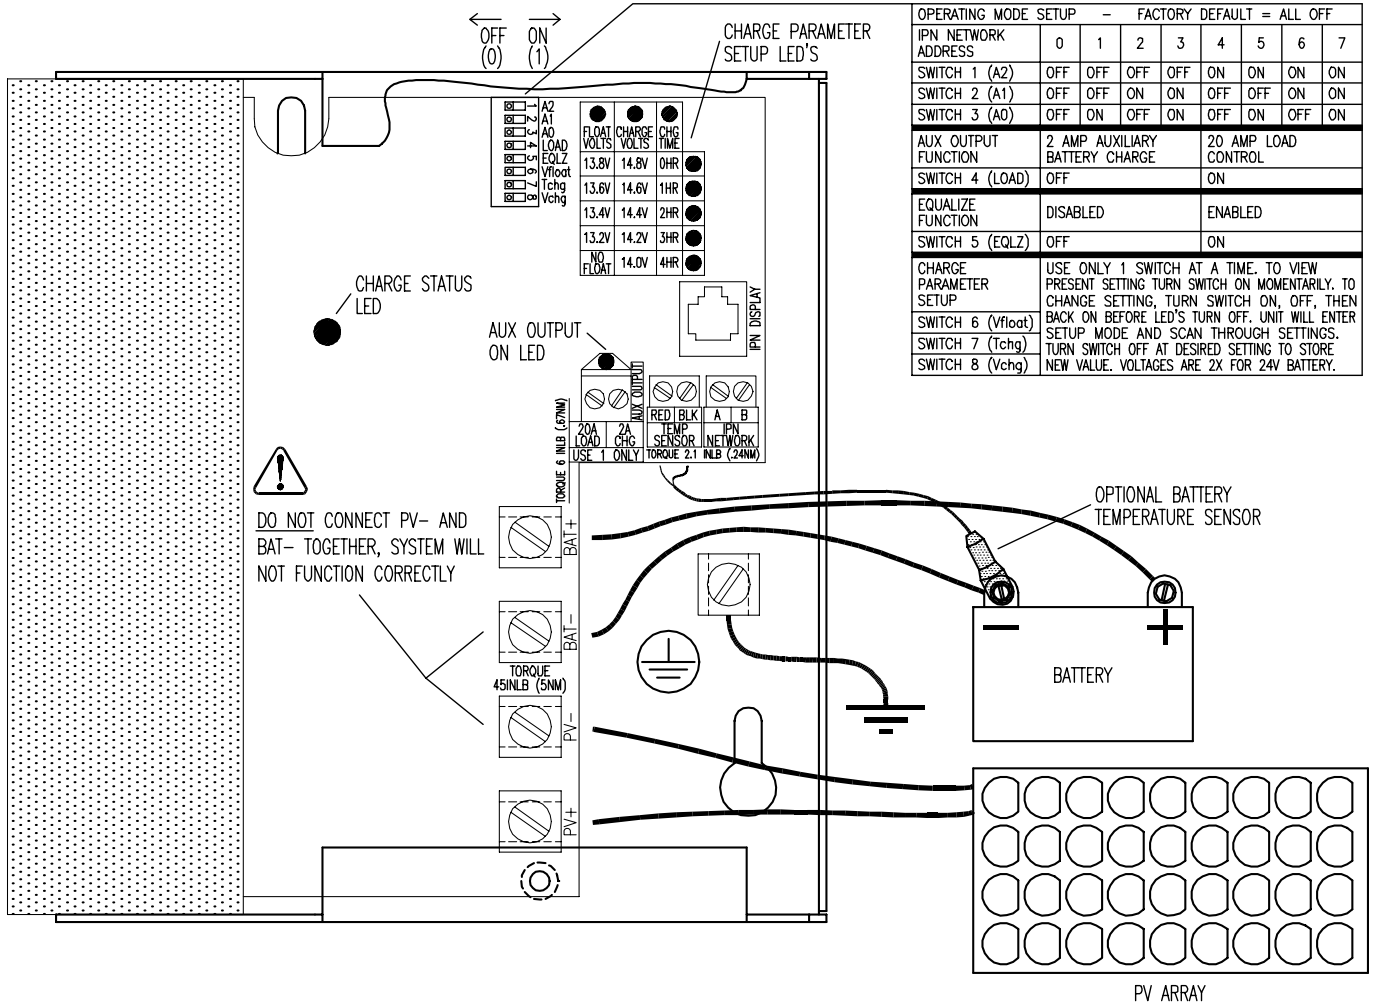

FIGURE 3
➤ **WARNING:** Read, understand and follow the Important Safety Instructions in the beginning of this manual before proceeding. To reduce the risk of fire, connect only to a circuit provided with 40 amperes maximum branch-circuit over current protection installed and wired in accordance with National Electrical Code, ANSI/NFPA 70. To reduce risk of electric shock, remove all sources of power, PV and battery before installing. Adjustments or connections other than those shown in Figures 3, 4 and 5 void the limited warranty. Note that Figures 3, 4 and 5 show generalized connections only and are not meant to show all wiring, circuit protection and safety requirements for a photovoltaic electrical system.
These setup options are configured with a single 8 position DIP switch located on the main circuit board as shown in Figure 3. All parameters are saved by switch position or in non-volatile memory and are retained if power is lost.
2. Turn ALL 8 DIP switches shown in Figure 3 ON.
The factory Acceptance charge voltage setting of 14.4/28.8V is suitable for most lead-acid batteries. The setting can be viewed or changed using the charge parameter setup LED's and operating mode DIP switch shown in Figure 3. To view the present setting, turn the V_{CHG} switch #8 ON momentarily. If more than one value LED lights, the present setting is in-between these values. If no value LED's light, the present setting is outside the range than can be shown. For a 24V battery the actual setpoint is double that shown on the LED's.
The factory Float charge voltage setting of 13.4/26.8V is suitable for most lead-acid batteries. The setting can be viewed or changed using the charge parameter setup LED's and operating mode DIP switch shown in Figure 3. To view the present setting, turn the V_{FLOT} switch #6 ON momentarily. If more than one value LED lights, the present setting is in-between these values. If no value LED's light, the present setting is outside the range than can be shown. For a 24V battery the actual setpoint is double that shown on the LED's.
Once the battery recovers sufficient charge to reach the Acceptance charge voltage setpoint, it will remain at this voltage for the Charge Time period, and then the unit will switch to Float. The default Charge Time setting of 2.0 hours is suitable for most lead-acid batteries. The setting can be viewed or changed using the charge parameter setup LED's and operating mode DIP switch shown in Figure 3. To view the present setting, turn the T_{CHG} switch #7 ON momentarily. If more than one value LED lights, the present setting is in-between these values. If no value LED's light, the present setting is outside the range than can be shown.
➤ **WARNING:** This unit must be installed and wired in accordance with National Electrical Code, ANSI/NFPA 70. Over current protection for the battery must be provided externally. To reduce the risk of fire, connect to a circuit provided with 40 amperes maximum branch-circuit over current protection in accordance with National Electrical Code, ANSI/NFPA 70. Figures 3, 4 and 5 show generalized wiring information only and do not include all wiring and safety requirements for a photovoltaic electrical system.
Simply connecting the optional battery temperature sensor as shown in Figure 3 will enable temperature compensation of all charge voltage setpoints, and enable all other battery temperature related functions. While the copper lug containing the sensor element has no electrical connection it is recommended that the sensor be connected to a negative battery terminal. Sensor temperature can be displayed directly on the IPN-ProRemote, or sensor voltage can be used confirm operation. With the sensor connected it's voltage should read approximately 2.98V at 25°C and change by +10mV/°C. If the sensor open, short, installed reverse polarity or missing, all temperature related functions will operate as if the sensor was at 25°C.
➤ **CAUTION:** The auxiliary output can serve one of two functions, either a 2 amp auxiliary battery charger, or a 20 amp load controller. It cannot perform both auxiliary battery charge and load control functions at the same time. The function is selected by DIP switch #4 as shown in Figure 3. The auxiliary output LED will illuminate whenever the auxiliary output is ON.